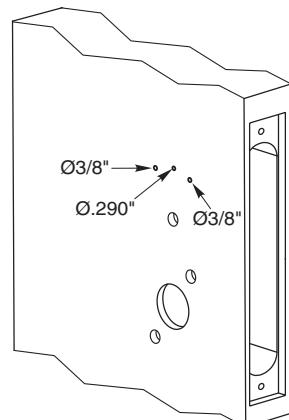

Figure 13
- Drill one middle hole (.290") And two outer holes (3/8") halfway through door. (Figure 13)
- Tighten cylinder set screw. (Figure 13)